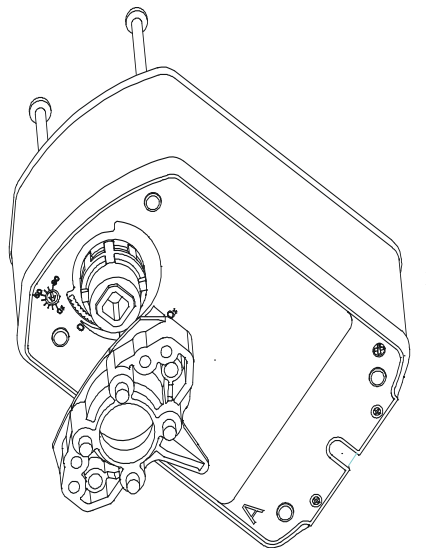

Figure 13: Installing the Linkage
5. Install linkage base on Side A using the two #10-14 x 2.75 in. long screws (Figure 13). The recommended torque is 20 to 24 lb-in. (2.3 to 2.7 N·m).